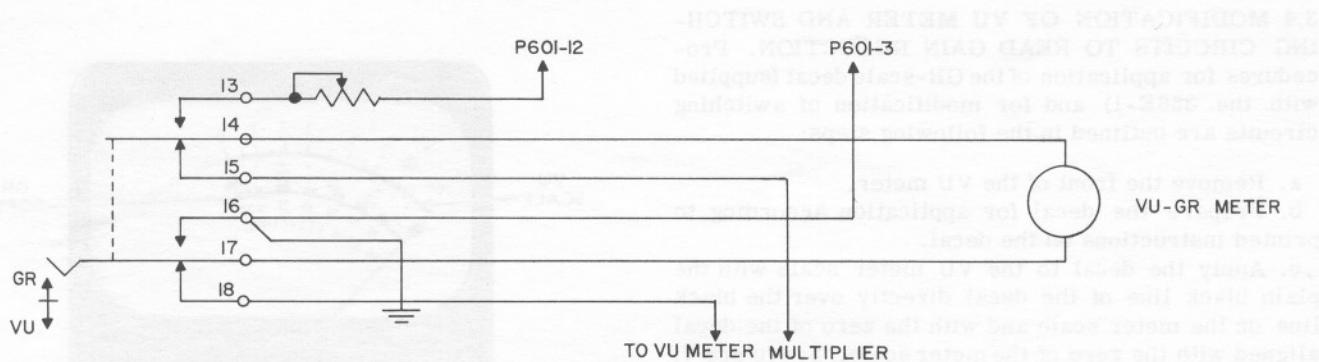

Figure 8. VU Meter and GR Switch Connections, Schematic Diagram
- e. If VU-GR switching is desired, refer to figure 8 for wiring connections.